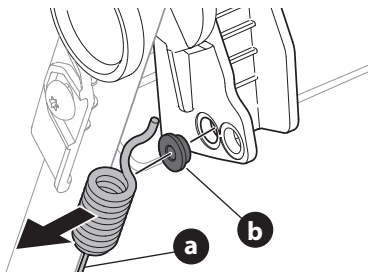

Figure 31
3. Unhook the cable (a) and remove the metal bushing (b) from the plastic drive handle (Figure 31).